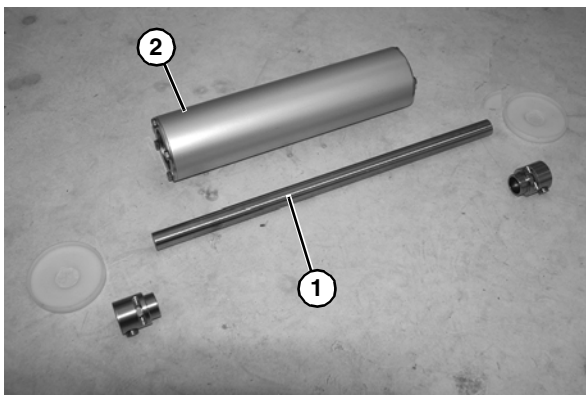

Figure 80
- Remove shaft (Figure 80, item 1) from tensioner pulley (Figure 80, item 2).